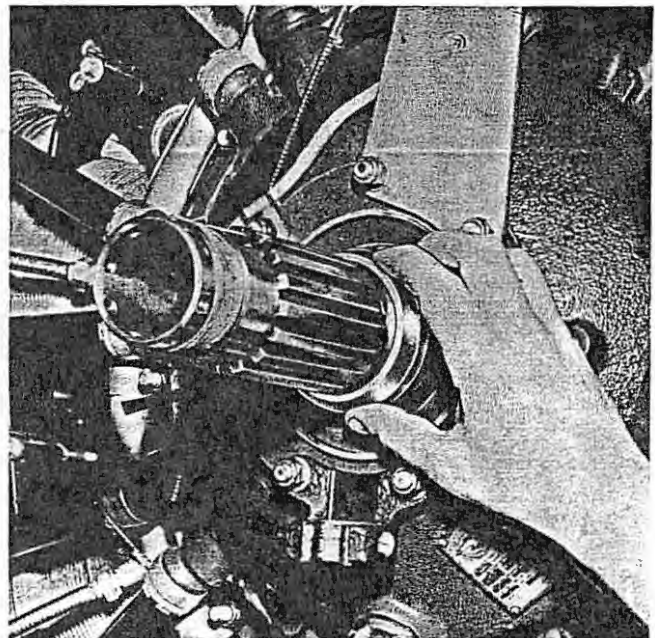

Figure 5-54. Installing Rear Cone
14. Install the rear cone on the propeller shaft (figure 5-54). Push the rear cone against the corrosion preventive compound, rotating the cone about the shaft and against the thrust nut to displace as much of the compound as possible from the rear mating surfaces, completely filling the spaces between the rear cone and the thrust nut.